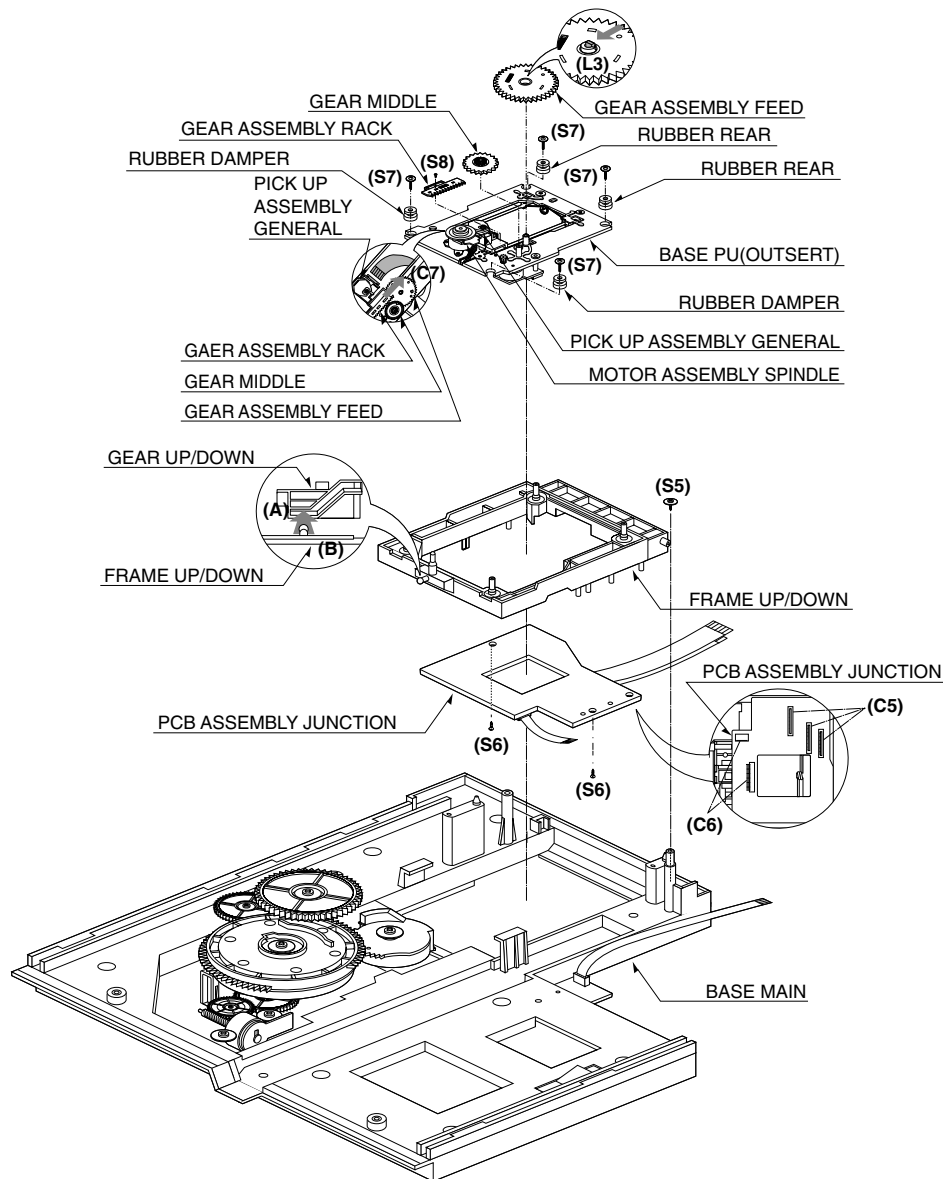

Fig. 4-3
3. Frame Assembly Up/Down(Fig. 4-3)